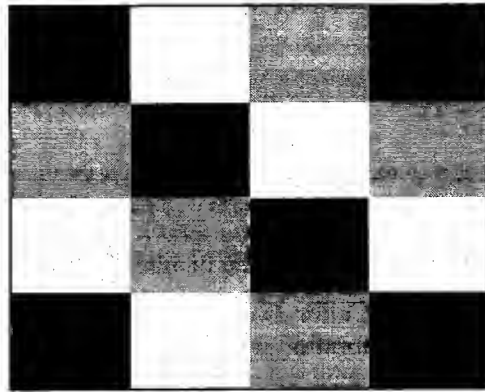

Figure 5-2. Display Test Pattern
2. Press  **CALIBRATE** . The display will show a dark test pattern, see Figure 5-2